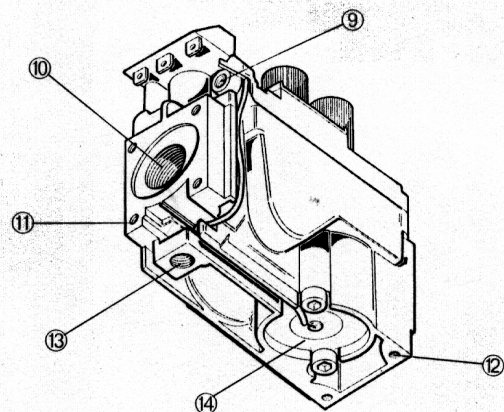

Figure 11
The supply line pressure is tested, to ensure it meets the minimum pressure, as listed in the Specifications sections of this manual, for the type of fuel in use (NG or LP). The Tucson must be isolated from the gas supply piping system by closing its individual manual shutoff valve during any pressure testing of the gas supply piping system at test pressures equal to or less than ½" psig. During tests in excess of ½" psig. (14" w.c.), the heater must be disconnected from the gas supply system. Test by connecting a manometer to the supply line. Adjust the incoming pressure, if necessary, to meet the required supply line pressure. Once connected to the gas supply, the gas inlet pressure and manifold gas pressure must be tested. The gas inlet tap (6) and manifold pressure tap (7) is located on the control valve (see Figure 11). Connect a manometer to the test points on the gas control valve, refer to #'s 6 & 7 of Figure 11 for locations.
The pilot light is preset by the manufacturer and should not need adjustment. The pilot light flame should be large enough to engulf the thermopile and, on a NG assembly, the thermocouple as well (located next to the pilot), but not so large as to create excessive noise or consume excessive gas. However, it can be adjusted by means of the pilot light adjustment screw located on the gas control valve. Open valve door to access the pilot adjustment screw. Refer to # 3 of *Figure 11* to